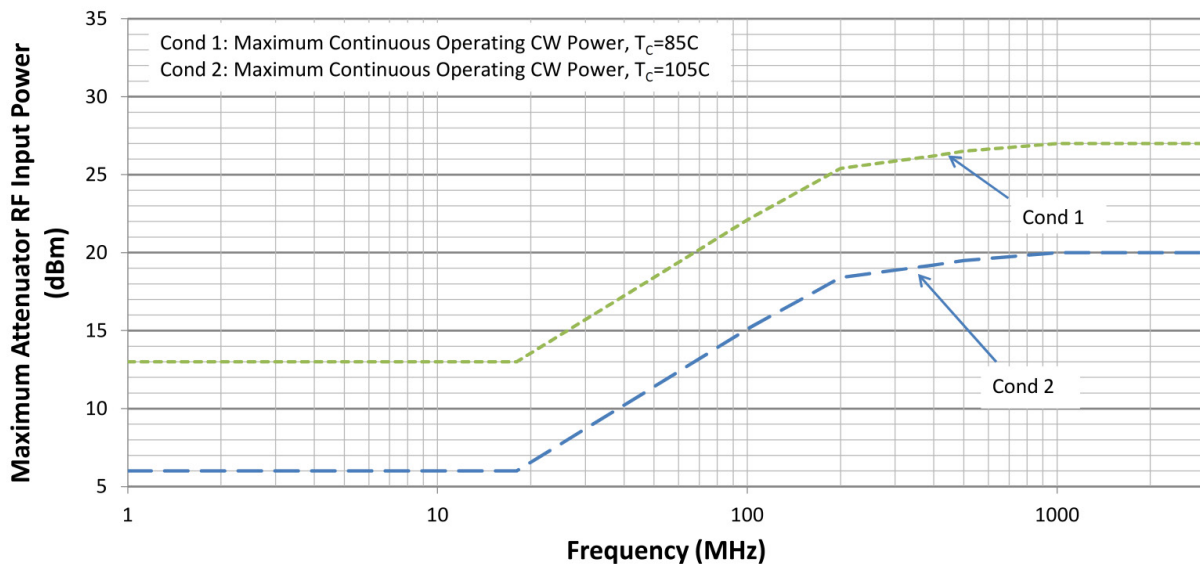

FIGURE 1: MAXIMUM OPERATING RF INPUT POWERS VS. RF FREQUENCY
- 3 – Refer to the Maximum **Operating** RF Input Power vs. RF Frequency curves in Figure 1.
- 3 – The input 1dB compression point is a linearity figure of merit. Refer to Absolute Maximum Ratings section along with Figure 1 for the maximum RF input power vs. RF frequency.